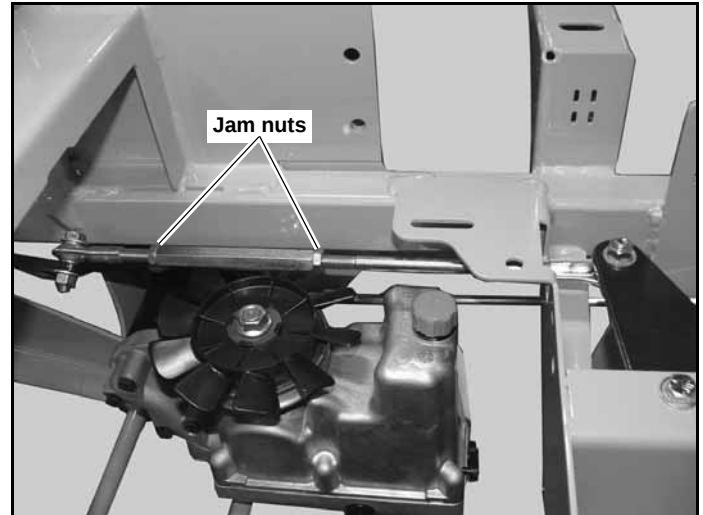

Figure 5-13
- a. Loosen the brake linkage jam nuts. (Figure 5-13) Rotate the tire and at the same time rotate the turnbuckle to shorten the length of the brake linkage to increase the brake pressure. When you feel the brake begin to engage, stop adjusting the turnbuckle. Re-tighten the jam nuts on the turnbuckle.